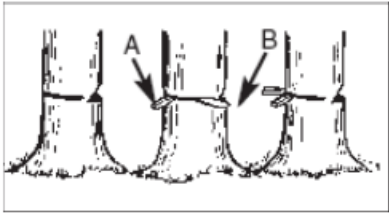

Fig 10c
Use wooden or plastic wedges (A) to avoid catching the blade or chain (B) in the cut. The feathers also have the role of controlling the fall (Fig. 10c)